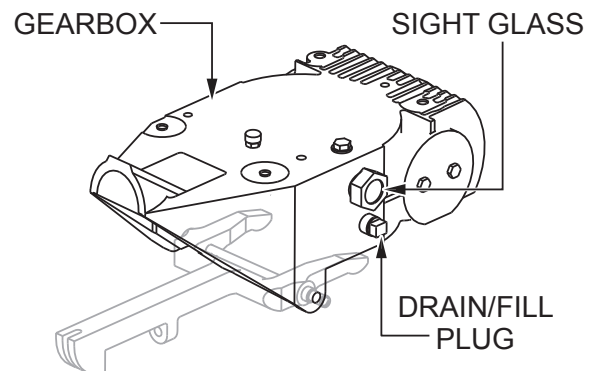

Figure 32. Gearbox Oil
1. Look at the sight glass on the side of the gearbox (Figure 32) to determine if gearbox oil is low. The correct oil level is to the halfway point on the sight glass.
2. If gearbox oil is low, remove the drain/fill plug (Figure 32) and fill with Mobil SHC™ 634 industrial synthetic gear oil until the correct oil level is reached. Replace the drain/fill plug when finished.